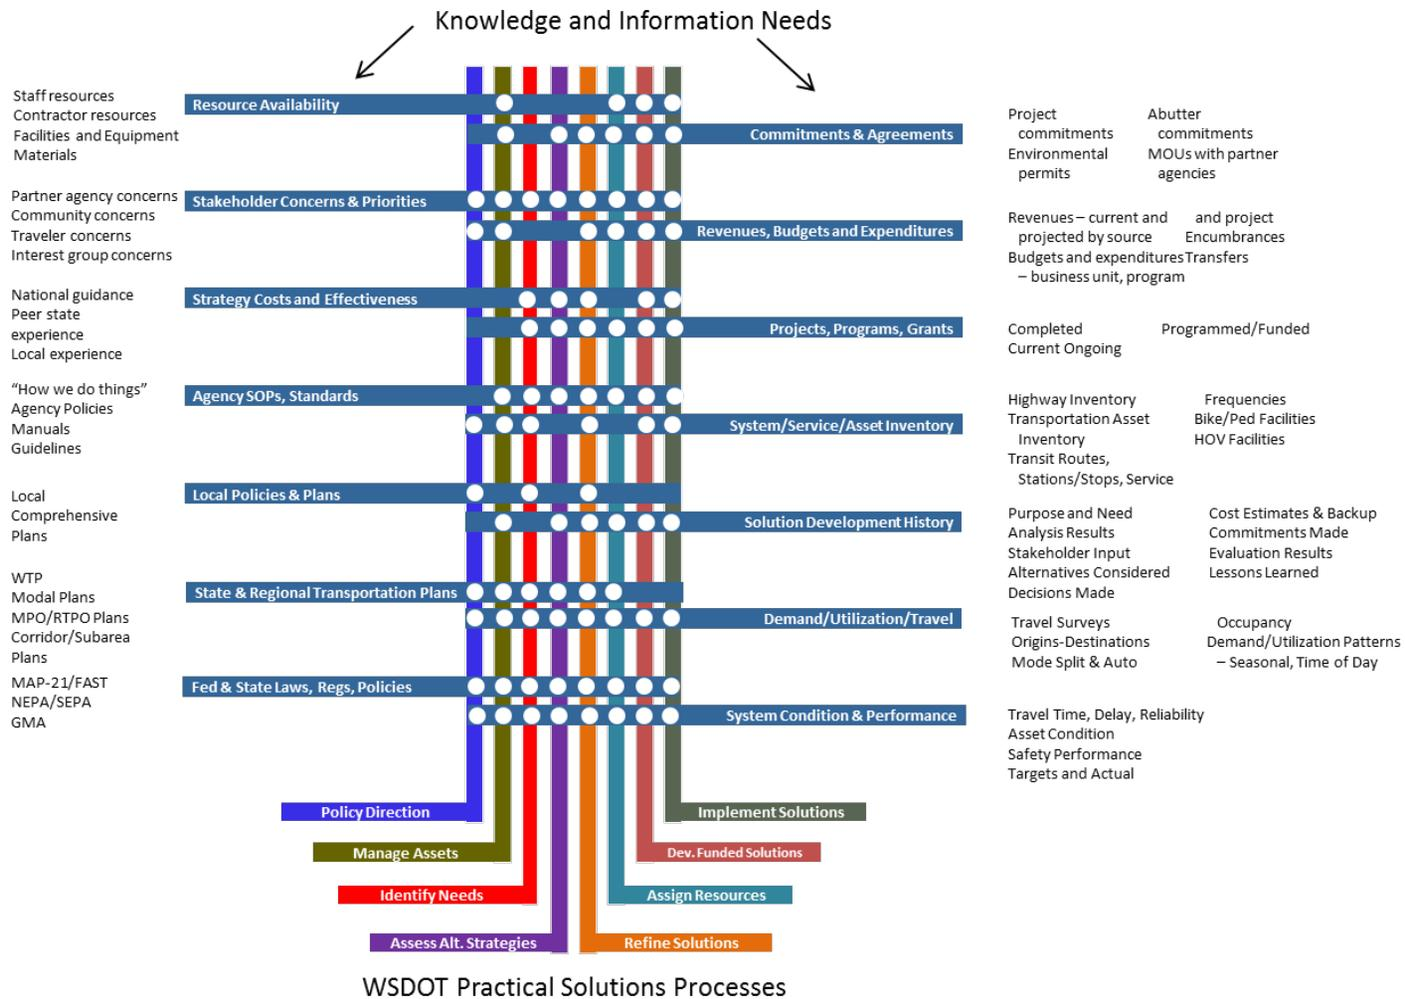

Figure 3. Knowledge Tree Representation of the Resource Models
- Figure 3. Knowledge Tree Representation of the Resource Models 4
One possible graphical illustration drawing upon information in the resource models is shown in figure 3 (next page.) This is a “knowledge tree” representation, in which each PS process step is a section of the tree trunk, and the branches are different types of information and knowledge used. The circles indicate which types of information and knowledge are needed by the different PR process steps.